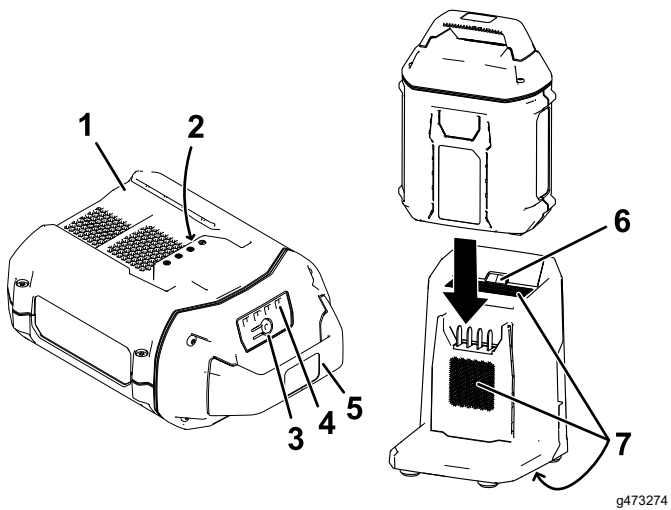

Figure 25
2. Line up the cavity in the battery pack (Figure 25) with the tongue on the charger.
3. Slide the battery pack into the charger until it is fully seated (Figure 25).